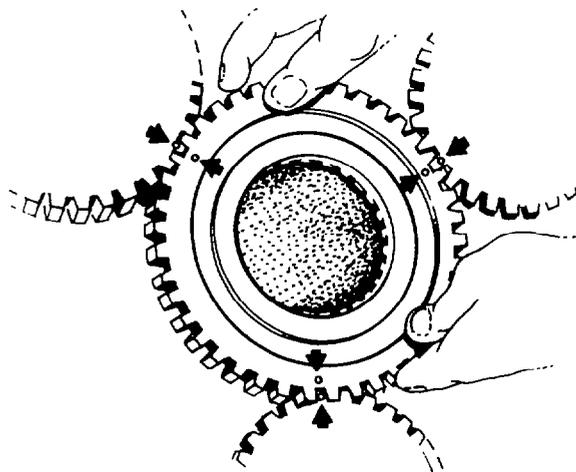

Fig. 195 — Installing Mainshaft Third Gear
- d. Place the transmission front case in a vertical-position. Install the mainshaft third gear with the alignment "O" marks on the gear face mating with the alignment "O" marks on the third gear on the countershafts (see fig. 195).